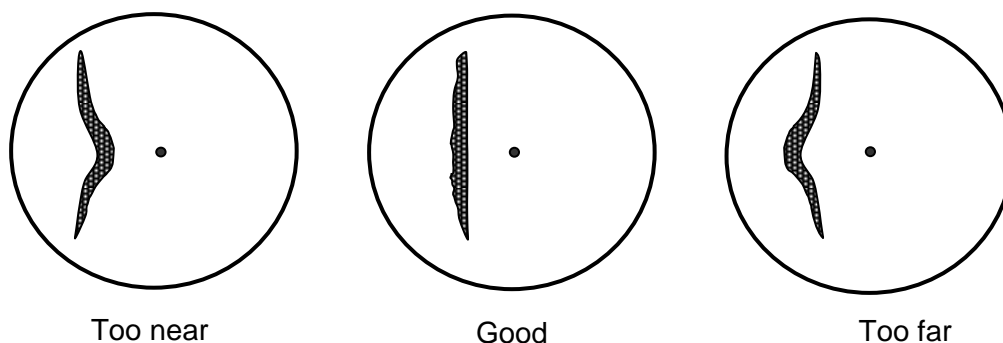

Figure 4.1 Picture display of Trigger Adjustment
- (3) Move the trackball/joystick up or down to adjust the value to get a straight picture of the straight object in the display as shown in Figure 4.1.
- (4) Press **ENT** key to save the adjustment result.